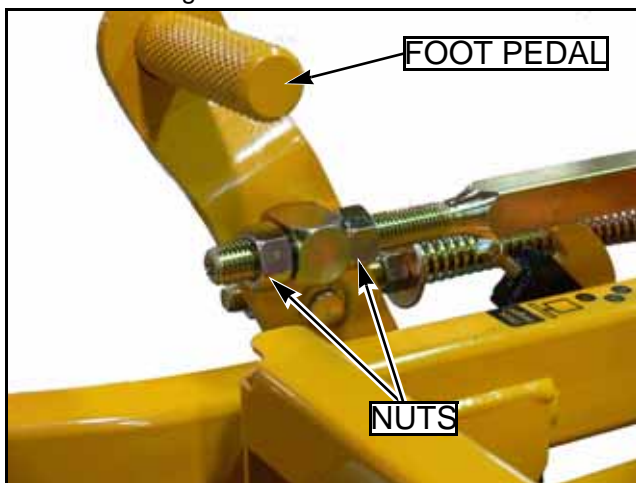

FIG. 95
7. Loosen the two nuts on the front of height indicator so that the foot pedal is free "FIG. 95".
12. While keeping the chain tight, tighten the nuts against the deck lift block on the height indicator rod "FIG. 95".